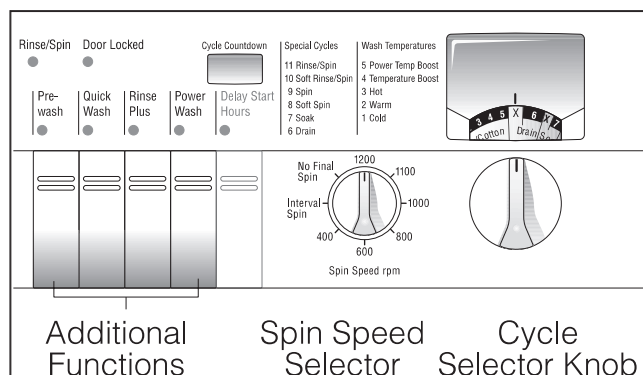

Figure 8.
- III. Use the Cycle Selector, see Figure 8, to select the cycle desired. The cycle length, in minutes, will be displayed in the “Cycle Countdown” alphanumeric display.